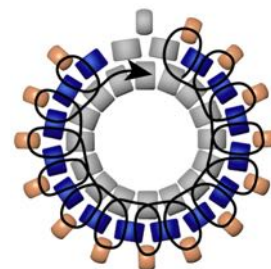

figure 3
3. Thread up one **cylinder B**, one **15° round** and go down through the cylinder bead from the previous stitch. Pass through the cylinder bead you were coming out of at the end of step 2 and then through the cylinder bead after that. Continue stitching right angle weave in this manner, adding two beads with every stitch. **(figure 3)**